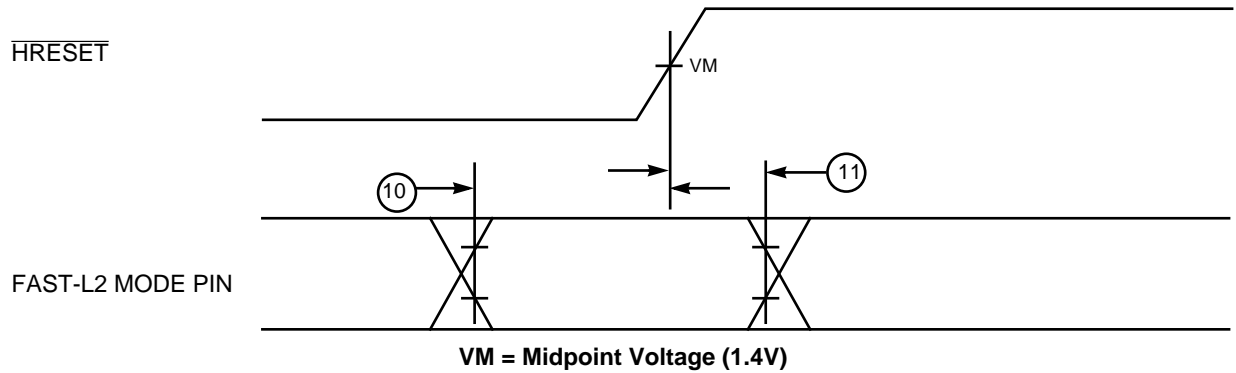

Figure 3. Fast-L2 Mode Select Input Timing Diagram
2. The setup and hold time is with respect to the rising edge of  $\overline{\text{HRESET}}$  (see Figure 3).
Figure 3 provides the timing diagram for the fast-L2 mode select input.